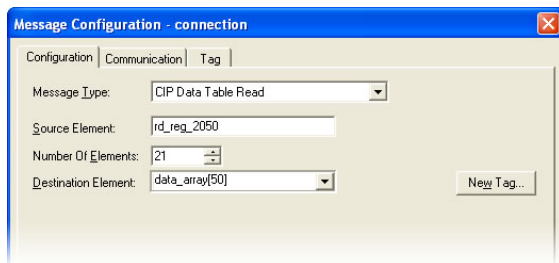

Figure 106: MSG Instruction Configuration
- Click the message configuration button ("...") in the MSG instruction. The "Message Configuration" window will open. Refer to Figure 106.